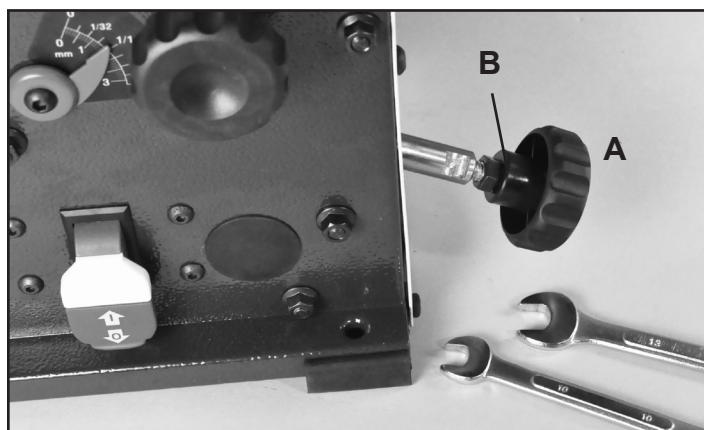

FIG. 10
Attach the infeed table's Adjustment Knob (A) to the jointer by tightening the hex nut (B) with a 10 mm and 13mm open end wrenches. FIG. 10.